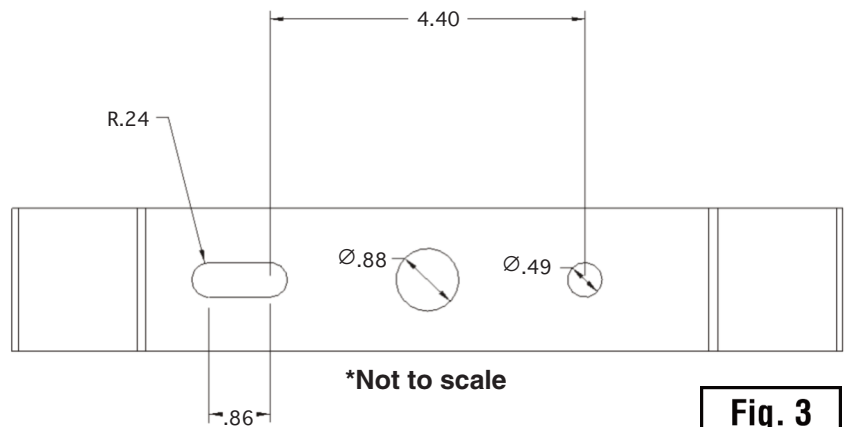

Fig. 3
2. Use the mounting template below to drill the holes in your mounting surface. See **Figure 3**